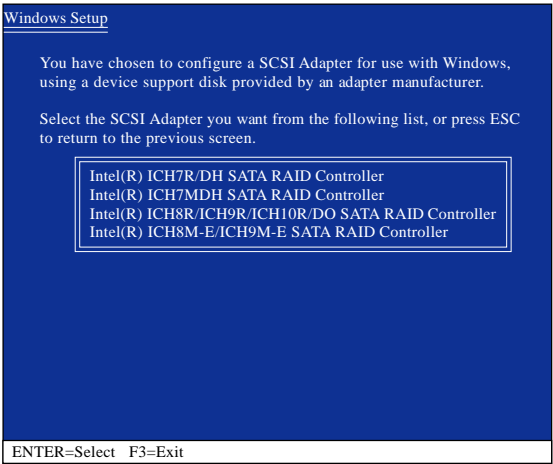

Figure 2
Then a controller menu similar to Figure 2 below will appear. Select **Intel(R) ICH8R/ICH9R/ICH10R/DO SATA RAID Controller** and press <Enter>. On the next screen, press <Enter> to continue the driver installation. After the driver installation, you can proceed with the Windows XP installation.